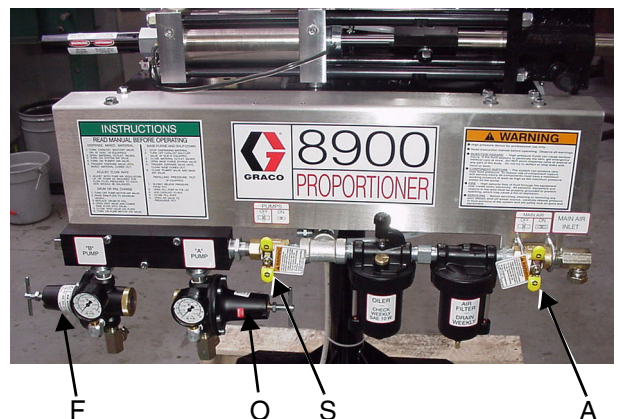

FIG. 17
If the pump does not cycle, close the air shutoff valve (E), adjust the air motor regulator (F-FIG. 17) up 5 psi (34 kPa, 0.3 bar) and repeat step 2. Never adjust the regulator by more than 5 psi (34 kPa, 0.3 bar) increments.
2. Open the main ball valve (A-FIG. 17) on the proportioner assembly. This air valve supplies air to the proportioner control valving and to the feed pump assemblies. All other air shut-off valves on the manifold and feed pump assemblies should be off.
3. Open the feed pump main air valve (S). This allows the air supply to feed pump assemblies.
4. Adjust the component B supply pump air regulator (F) to allow smooth pumping action. Continue until component B flows from the dispense gun into the waste container.